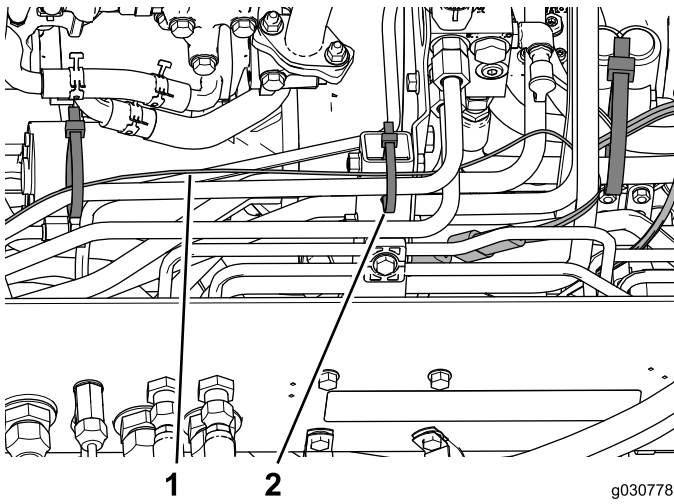
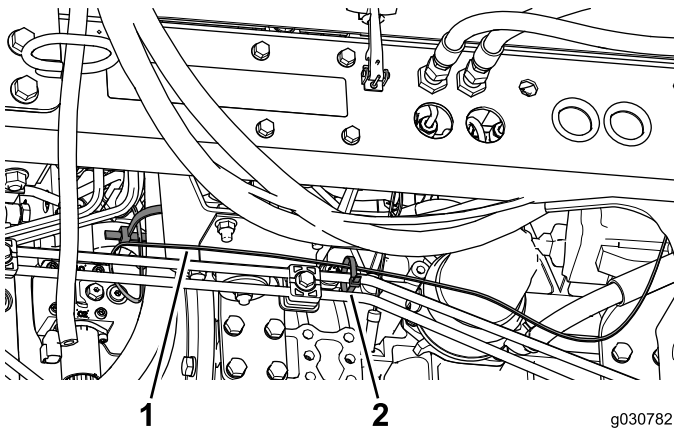

Figure 49
Figure 50
5. Use cable ties to secure the wire harness to the hydraulic hoses and hard lines at the locations shown in Figure 49 and Figure 50.